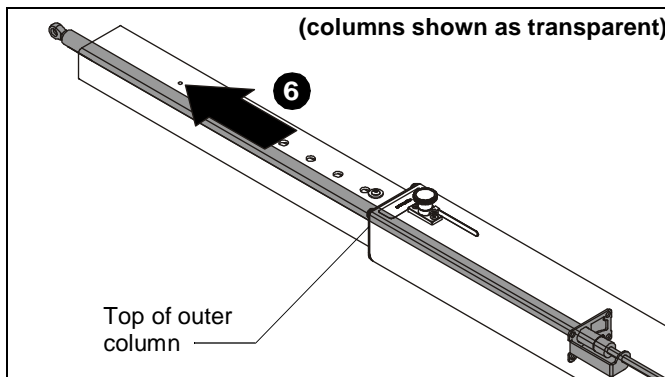

Figure 10
- With gas spring assembly (A) fastened to the inner column, slide inner column of cart/stand up through outer column, and out the top of the outer column. (See Figure 10)